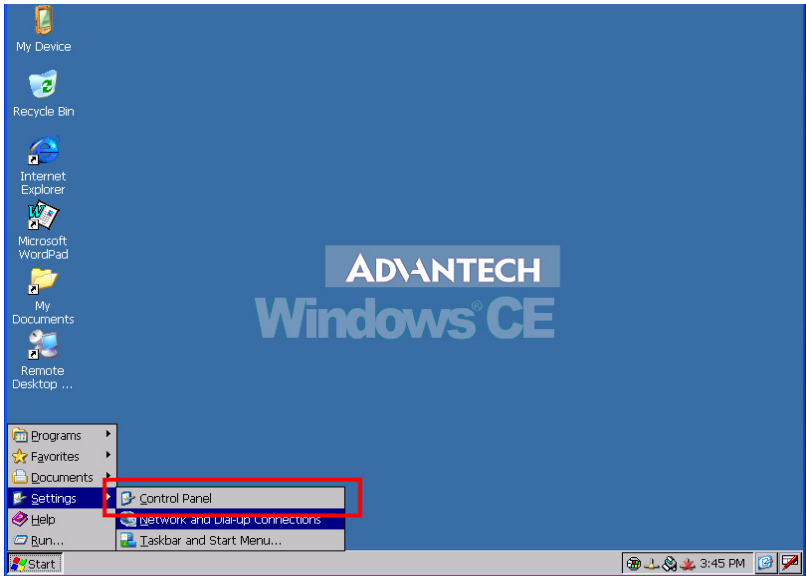

Figure 2.4: Touchscreen Calibration - 1
Step 5: Push the power button to power on the system as the figure 2.4.